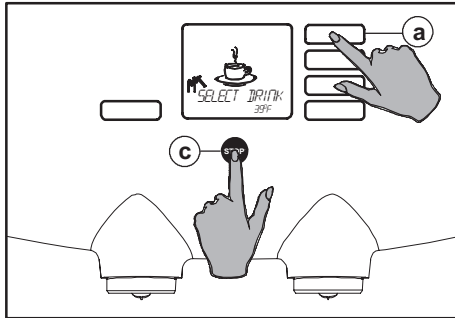

Fig. 76 Access to the operator menu
During descaling, if the bucket is in danger of overflowing, the program can be interrupted by pressing the stop button (fig. 76 c). The bucket can then be emptied. Press the stop button again to continue.
2. Activate the operator menu (fig. 76), see also § "Access the operator menu" (fig. 27).
- Press the stop button (fig. 76 d) if the bucket is in danger of overflowing!